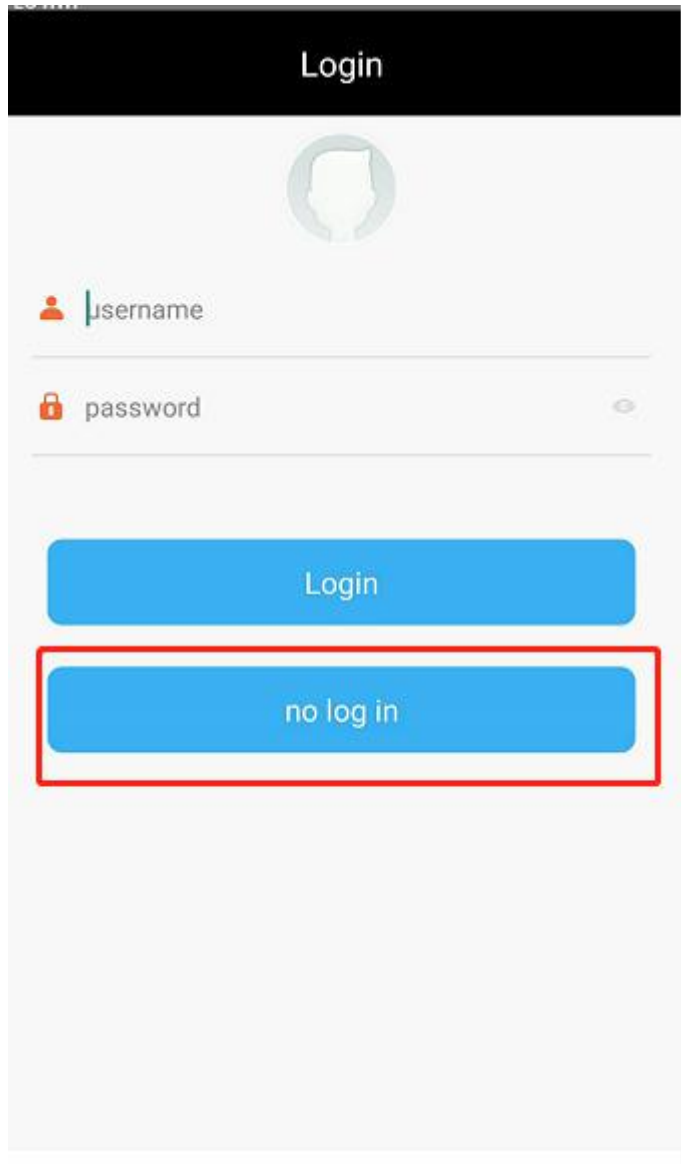

Figure 3-1
2. After GCS installation, the label will be appeared as figure 3-1.